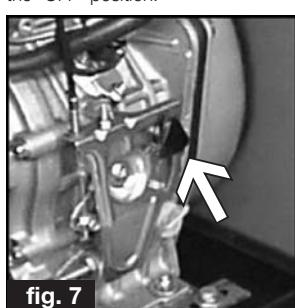

fig. 7
1) W180 (YANMAR engine) models: Position the accelerator handle on the engine (see fig. 7) back upwards. Wait until the engine is completely off. Turn the key to the "OFF" position.